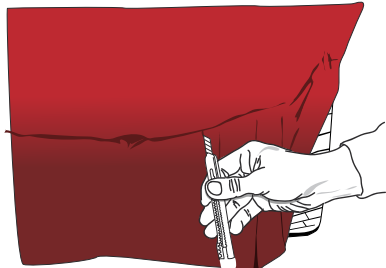

Figure 26
- › Using the cutter, cut vertical strips in the vinyl. (FIG. 26)